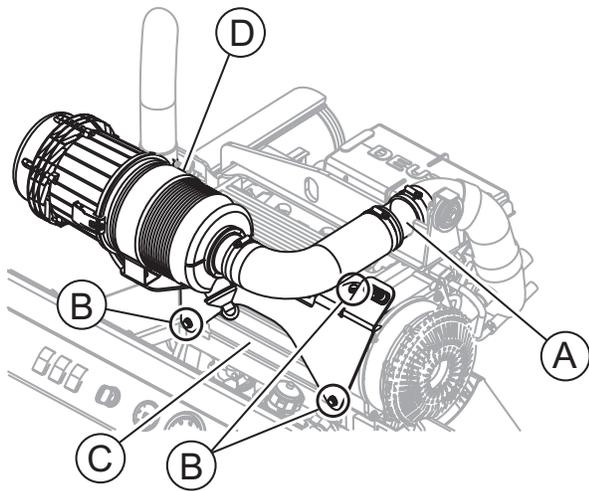

Figure 45. Air Cleaner Removal
1. Disconnect the Air Intake Hose at the Lifting Bale, (item A, Figure 45).
2. Remove 3 bolts that mount the air filter bracket to the engine, (item B) and cover the oil cooler, (C).